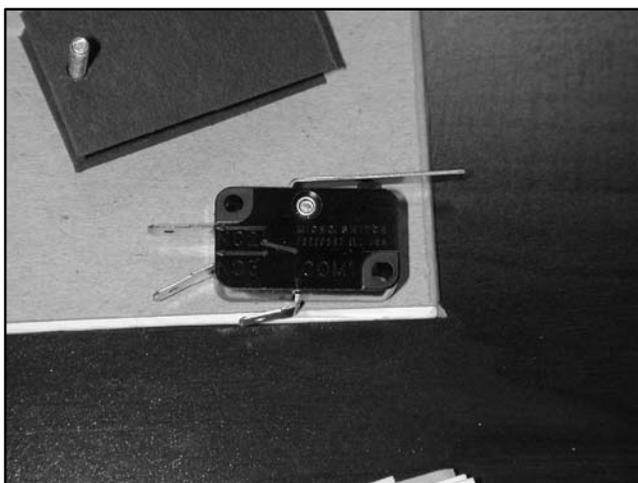

Figure 5-12 Microswitch
9. Remove the suspect microswitch. See Figure 5-12.